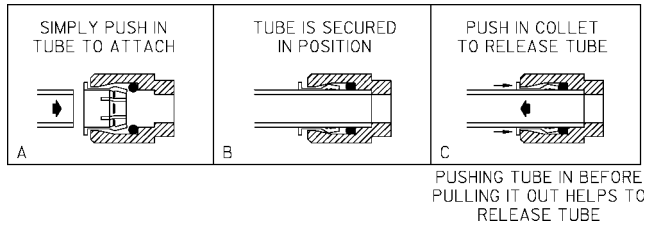

FIG. 6
8. **Connect** refrigeration package to supply line with a shut off valve and install a 3/8" unplated copper water line between the valve and the cooler. Remove burrs from outside of water line. Insert water line straight into fittings until they reach a positive stop, approximately 3/4" (19mm). (See Fig. 6 and 7) **DO NOT SOLDER TUBES INSERTED INTO THE STRAINER AS DAMAGE TO THE O-RINGS MAY RESULT.**